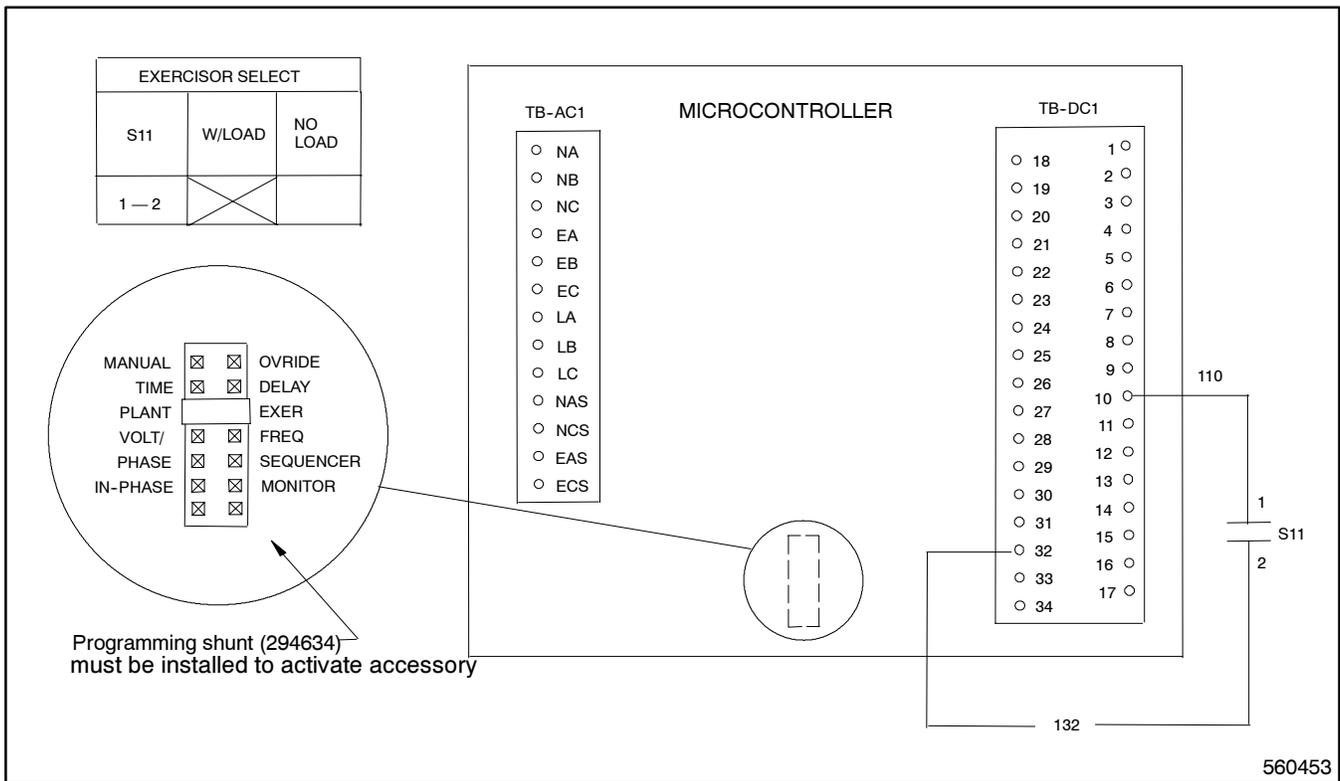

Figure 4-26. Wiring Diagram—Plant exerciser, option KD-23-G
- KD-23-G. Allows the customer to choose between a loaded or unloaded generator exercise with a Load/No Load selector switch. See Figure 4-26 for connections.